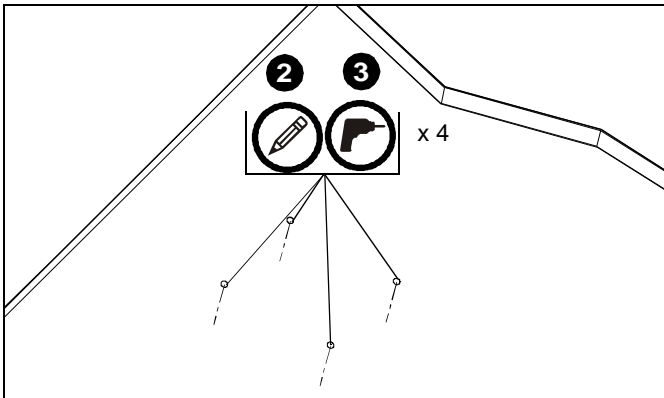

Figure 3
2. Using the CMA101 as a guide, mark four mounting hole locations on ceiling. (See Figure 3)
3. Drill four 3-1/4" deep pilot holes. (See Figure 3)